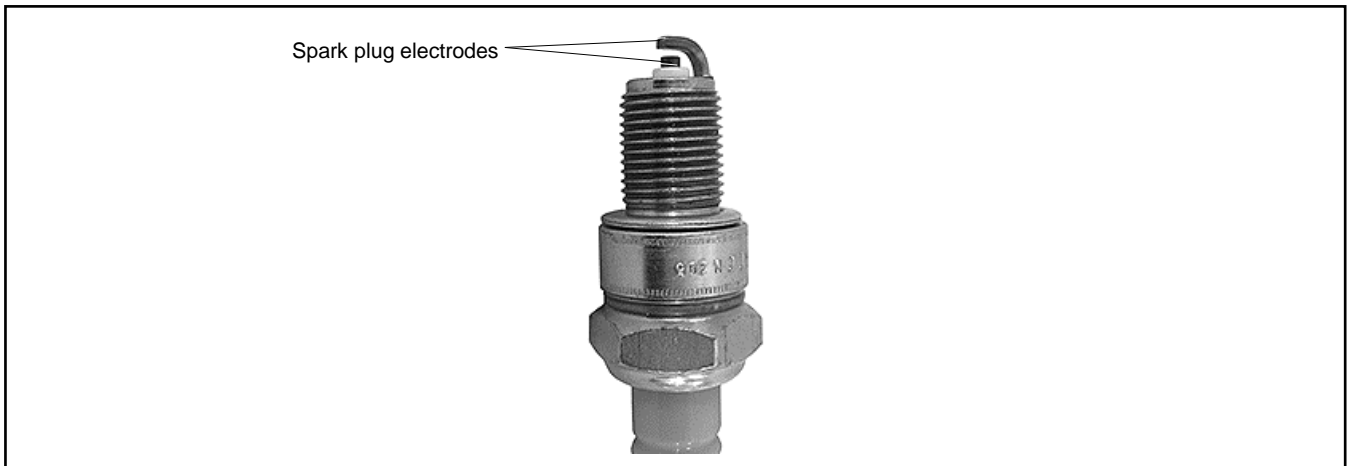

Figure 28 Spark Plug Electrodes
6. Inspect the electrodes on each spark plug. See Figure 28. The electrodes should be light brown. If the electrode appears to be burned, covered with soot, or fouled with oil, replace the spark plug.